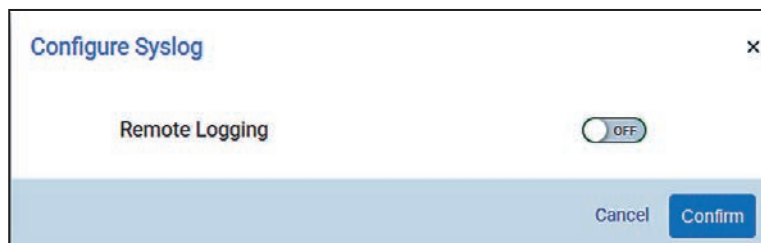

Figure 46. The Configure Syslog dialog box.
- STEP 1.** Click on the blue **Configure Syslog** button on the *Syslog Configuration* screen. See Figure 43 on page 45. The Configure Syslog dialog box appears. See Figure 46.